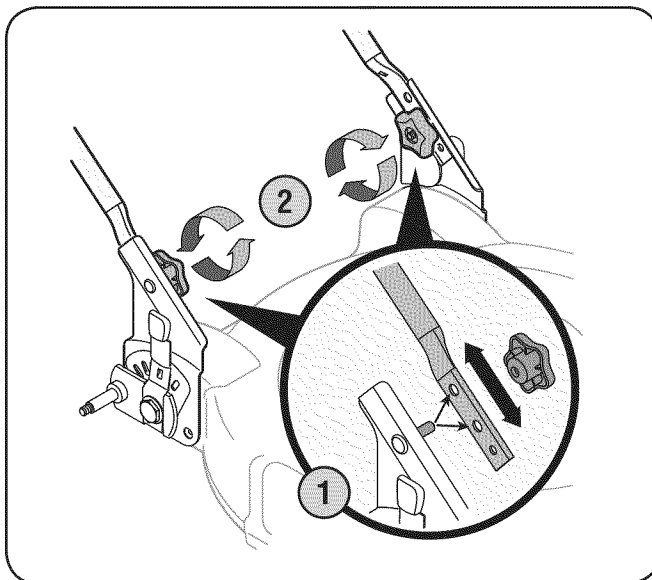

Figure 3-2
1. Place the lower handle over the handle bracket assemblies and position each bracket stud into the top or bottom hole. See Fig. 3-2.
3. If satisfied with the height of the handle, tighten the star knobs at the ends of the lower handle shown in Fig. 3-2. For convenience of operation, you may adjust the handle height as follows:
- a. Remove the star knobs shown in Fig. 3-2 and remove the lower handle.